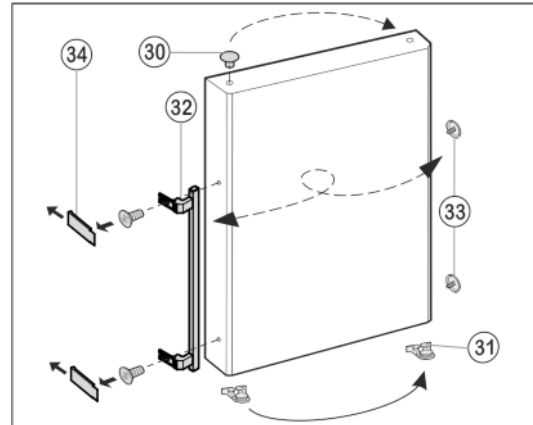

Fig. 11
- ▶ Lift the stopper Fig. 11 (30) out of the door bearing bush and transfer it.
- ▶ Detach door handle Fig. 11 (32), stopper Fig. 11 (33) and pressure plates Fig. 11 (34) and transfer to the opposite side.